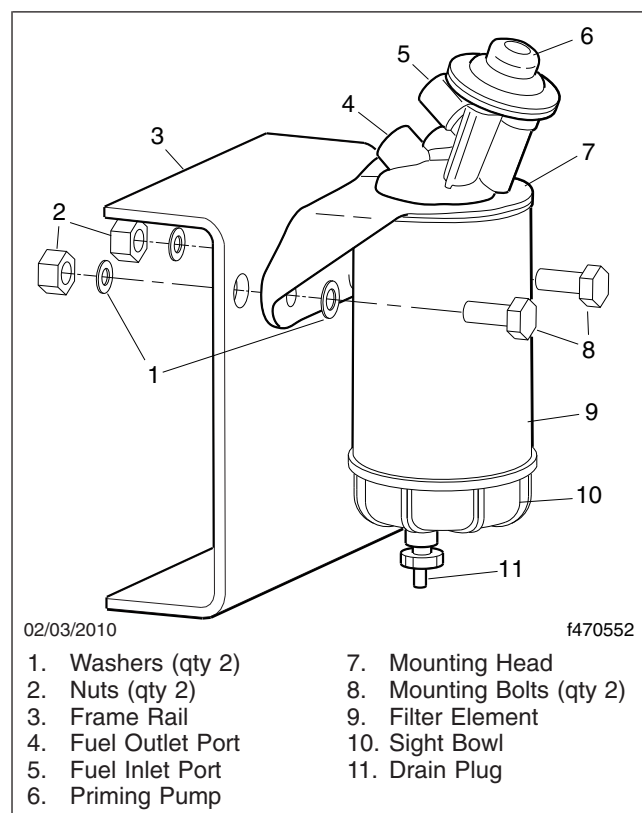

Fig. 23.13, Alliance Fuel/Water Separator Assembly and Installation
- 4.3 *Alliance/Racor Models:* Turn the drain plug counterclockwise to open it. See Fig. 23.13.